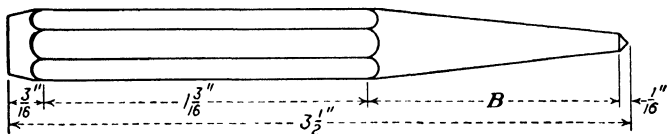

Fig. 17.—Center punch.
10. What is the length of *B* in Fig. 17? Check your answer.